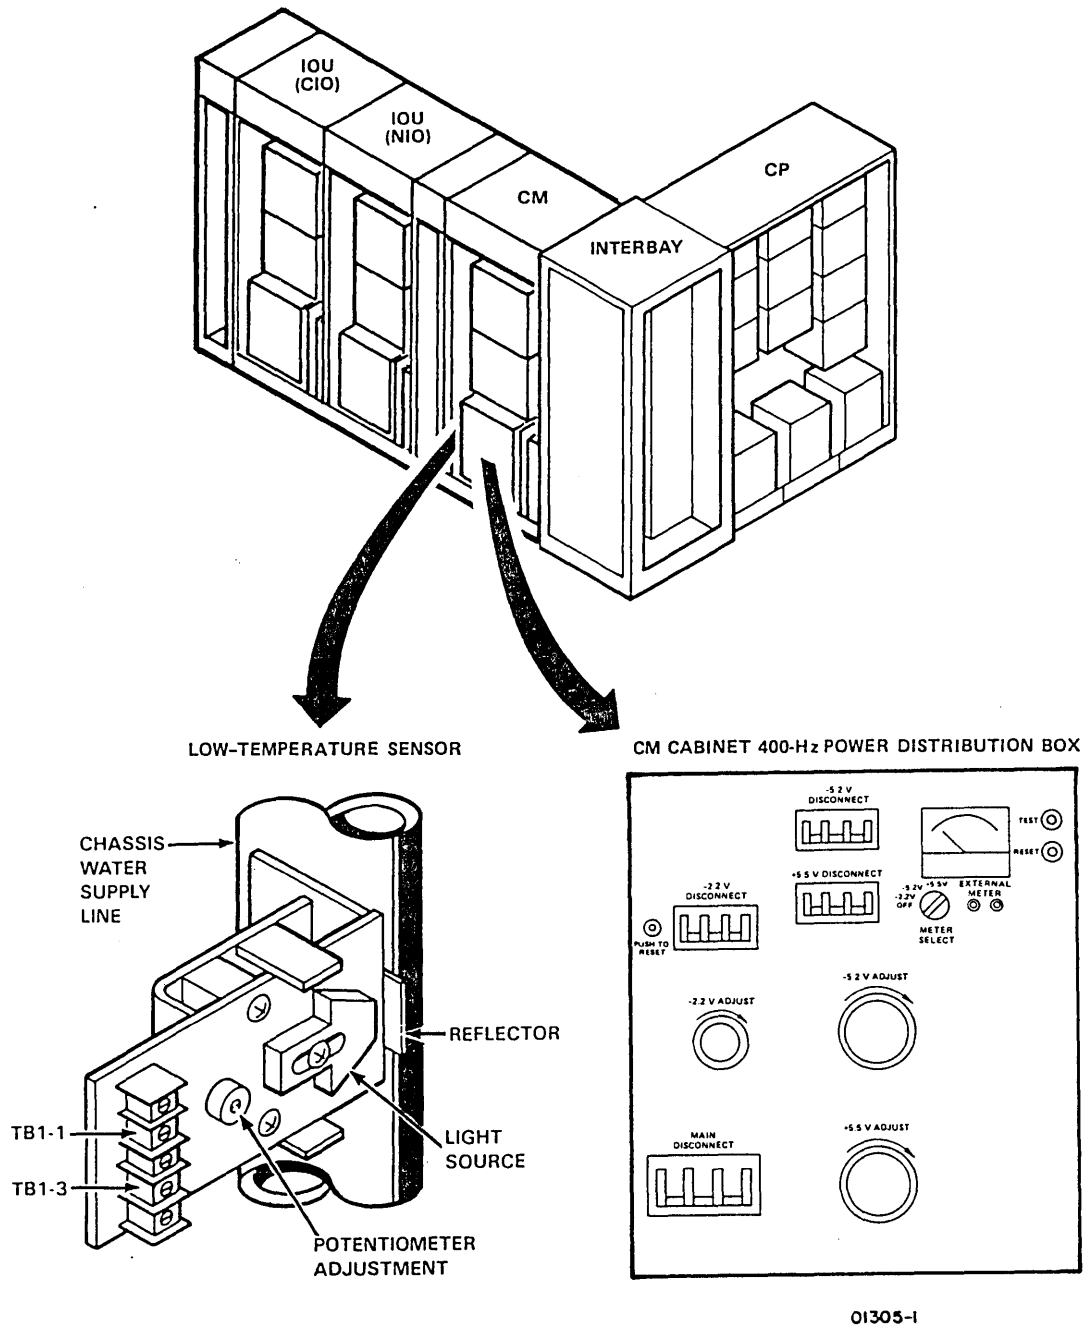

Figure 4-33. CM Power Controls and Adjustments
- ___ a. Set METER SELECT switch (figure 4-33) to +5.5 V.